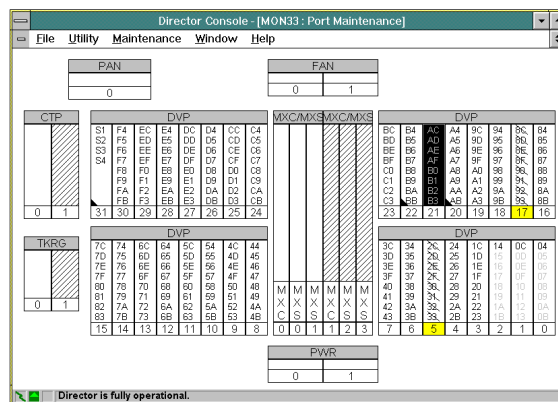

Figure 3-22. The Port Maintenance Window
1. From the *Maintenance* menu of the active matrix window of the Director, select the *Port Maintenance* option. The *Port Maintenance* window is displayed. Refer to Figure 3-22.